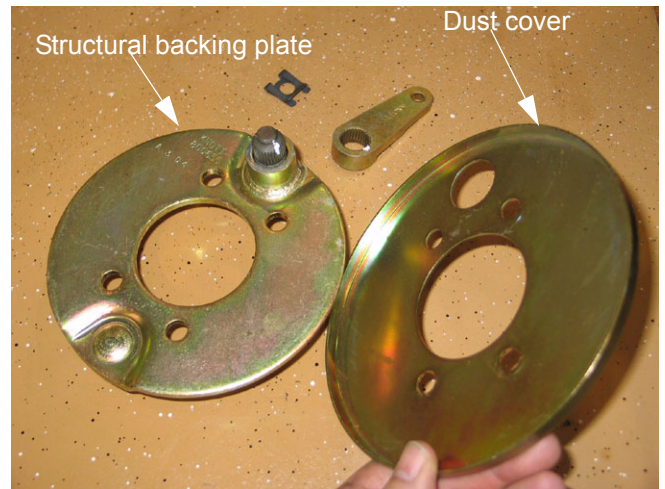

Figure 9.7
- 9.7. Though it is not likely to require disassembly during brake or transaxle service, it is worth noting that the backing plate is an assembly. See Figure 9.7.